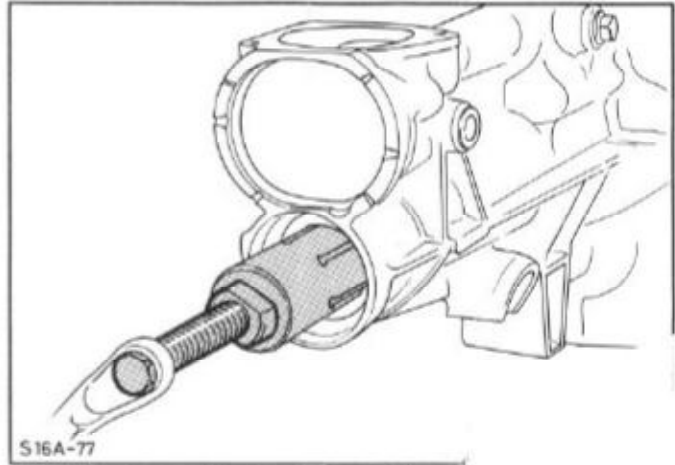

Fig.153. Draw the bush from the extension housing using appropriate special tool ('N' transmission shown).
5. Remove the extension housing bush using appropriate special tool, Fig.153.